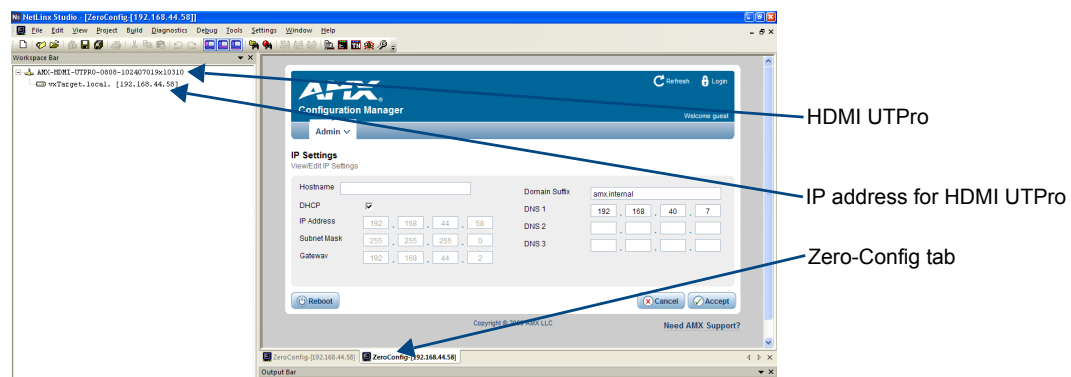

FIG. 20 NetLinx Studio showing the Zero-Config tab and the IP address for an HDMI UTPro
- Right-click anywhere in the Workspace and select Refresh Zero-Config List to generate an initial listing of all Zero-Config devices that have been detected (FIG. 20).